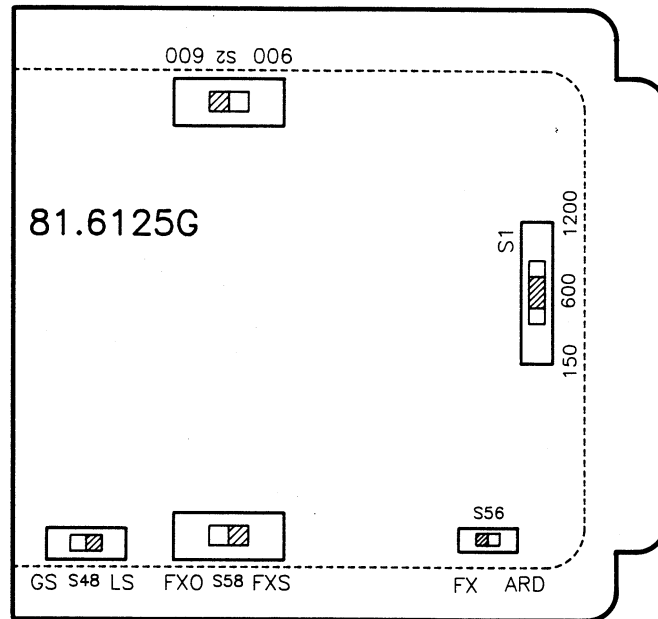

figure 9. 6125G option switch locations
- 3.05 Five option switches must be set before the 6125G is placed into service. One is a three-position slide switch; the others are two-position slide switches. Locations of these switches on the module's printed circuit board are shown in figure 9. Instructions for setting the switches are given in table 10.